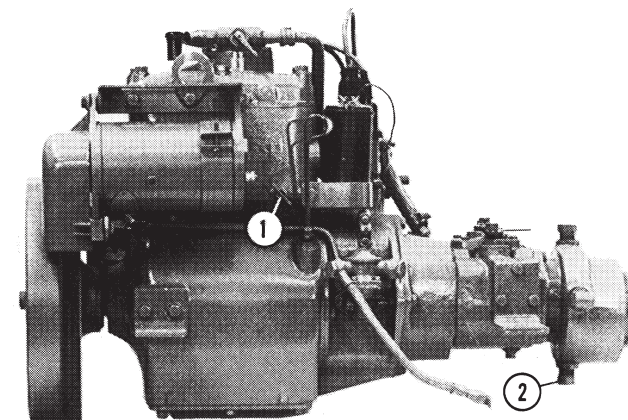

Fig. 22. Drain cock for cooling water, engine
- a. Drain off all cooling water from the engine and exhaust manifold by opening the drain cock (on the starboard side) and from the reduction gear by opening the drain plug, see Fig. 22. Then close the cock and drain plug.
- f. Drain all cooling water from the engine by opening the drain cock, see Fig. 22. **The rustproofing mixture does not protect the engine against frost.** If the engine is fitted with a wet exhaust line, this should also be drained of water. When a reduction gear is fitted, this should be drained of cooling water through the plug in the bottom of the reduction gear.